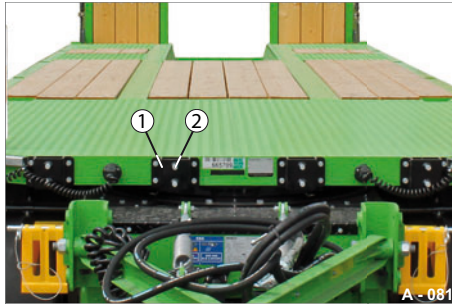
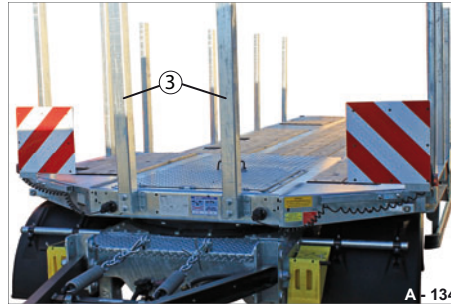

Fig. 99 Post pocket, front side
Fig. 100 Front side posts
- ▶ Insert the post (Fig. 100/3) completely into the post pocket (Fig. 99/1).
- ▶ Secure the post with both screws (Fig. 99/2).